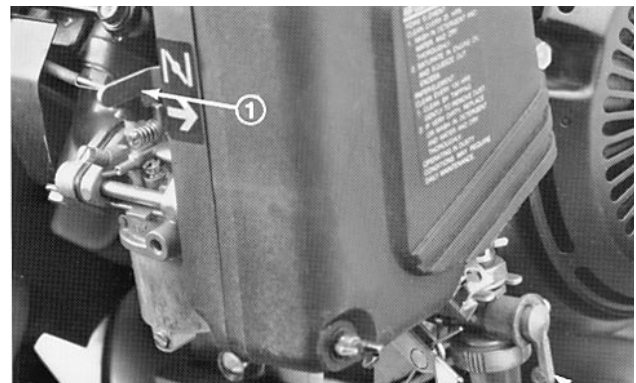

Fig. 14
Choke Lever (Fig. 14)—Located on the left front of the engine. The lever has two positions: RUN and CHOKE. Move the lever to CHOKE when starting a cold engine. After the engine starts, move the lever to RUN.
Fuel Shut-off Valve (Fig. 14)—Located on the left front of the engine. The valve has two positions: CLOSED and OPEN. Move the lever to CLOSED when storing or transporting the machine. Move the valve to OPEN before starting the engine.
2. Open the fuel shut-off valve on the engine (Fig. 14).
5. Move the choke lever (Fig. 14) to the half-open position when starting a cold engine. The choke may not be required when starting a warm engine.